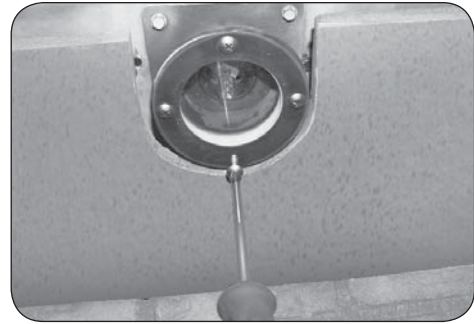

Fig. 56-2 Remove light assembly
2. Using a Phillips screwdriver, unfasten the 4 screws that hold the light assembly in place (see Fig. 56-2). Then remove the glass, housing plate, and gaskets. Set aside the glass and housing plate. Discard the old gaskets.